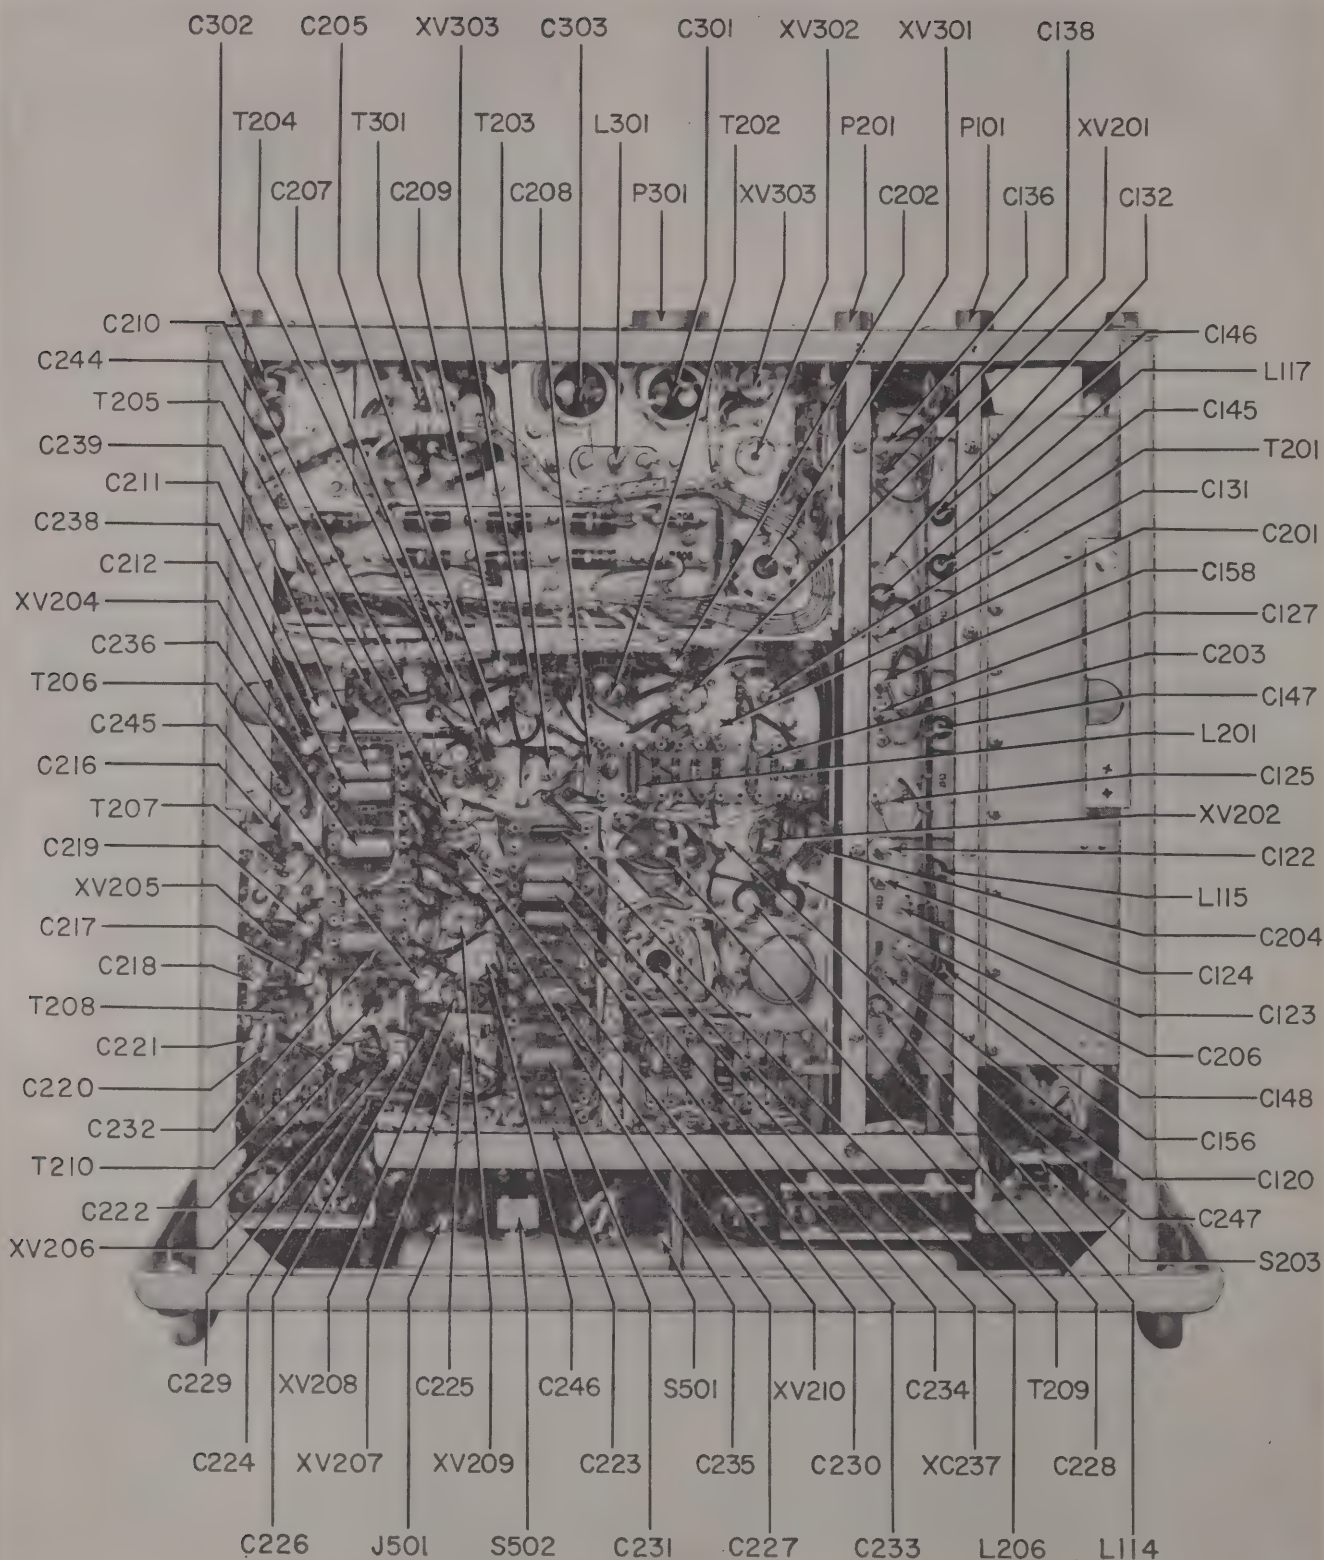

Figure 7-15. Radio Receiver R-482/URR-35, Bottom View—Identification of All Components Except Resistors and Terminal Boards
(1) Set up, near the receiver, a heterodyne frequency meter such as a Navy Model LM or LR series, which will cover the range of 10–18 megacycles, or the range 20–35 megacycles, and couple it, through a d-c blocking capacitor, to capacitor C123, located on the oscillator side of the preselector; see figure 7-15.
(2) Set the tuning dial of the receiver to 232 megacycles, throw the CRYSTAL-MANUAL switch to MANUAL, and install any crystal.
- (1) Unsolder the wires from the three terminals of choke L301; see figure 7-15.
- (2) Remove the nuts from the four mounting studs on L301.
- (3) Lift out L301.
- (4) Unsolder the wires from two terminals of capacitor C304, atop the chassis.
- (5) Remove the nuts from the two mounting studs on C304, which are accessible through holes in the right side panel of the chassis.
(1) Unsolder the wiring from the terminals of T301; see figure 7-15. Identify each wire in some manner if there is any likelihood that the preformed arrangement of these wires will be disturbed before connections are restored.
(2) Remove the nuts from the four transformer-mounting studs.
(3) Unfasten the rear panel by removing: